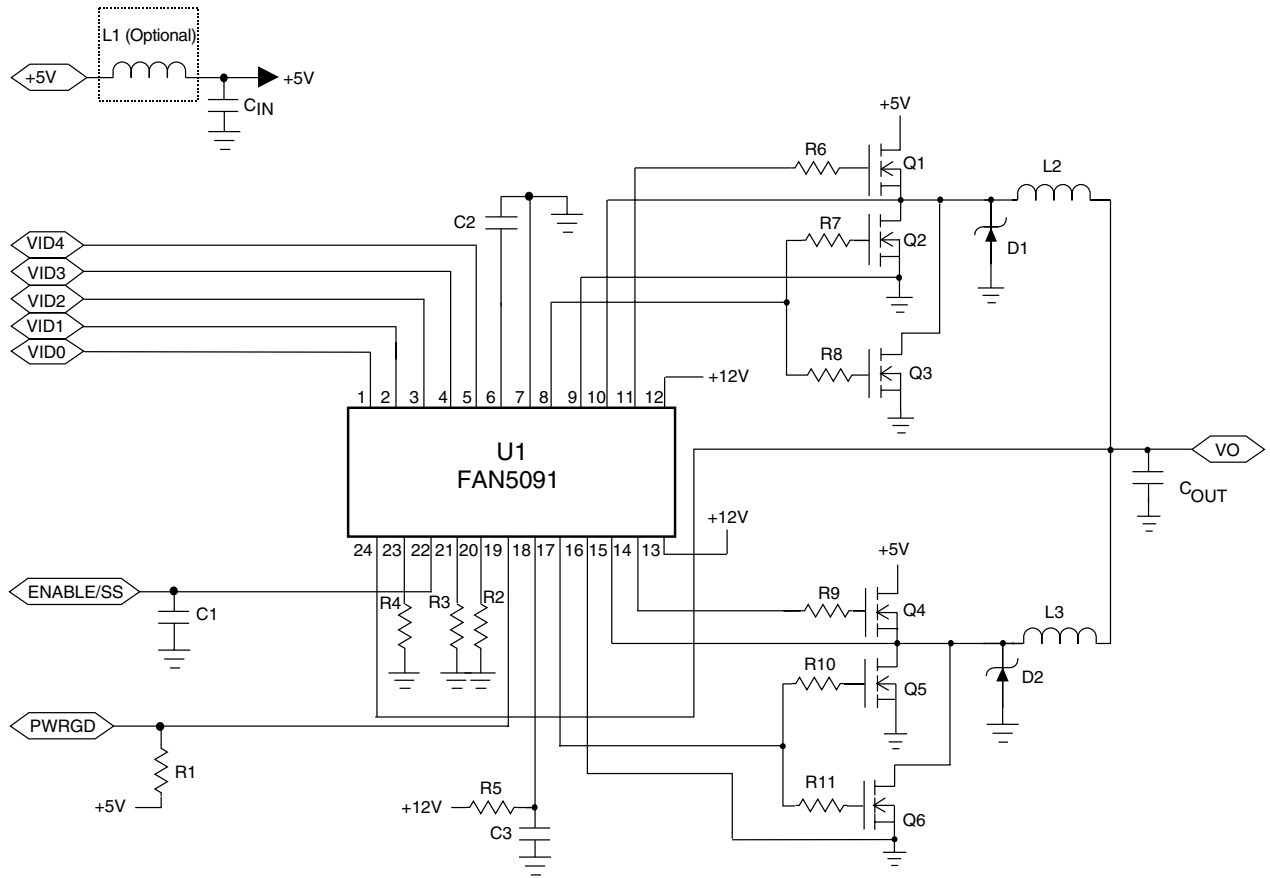

Figure 2. Application Circuit for 69A Willamette Low-Frequency Application (200KHz each slice)
( $V_{CC} = 12V$ , and  $T_A = +25^\circ C$  using circuit in Figure 2, unless otherwise noted.)
**Table 3. FAN5091 Application Bill of Materials for Figure 2**